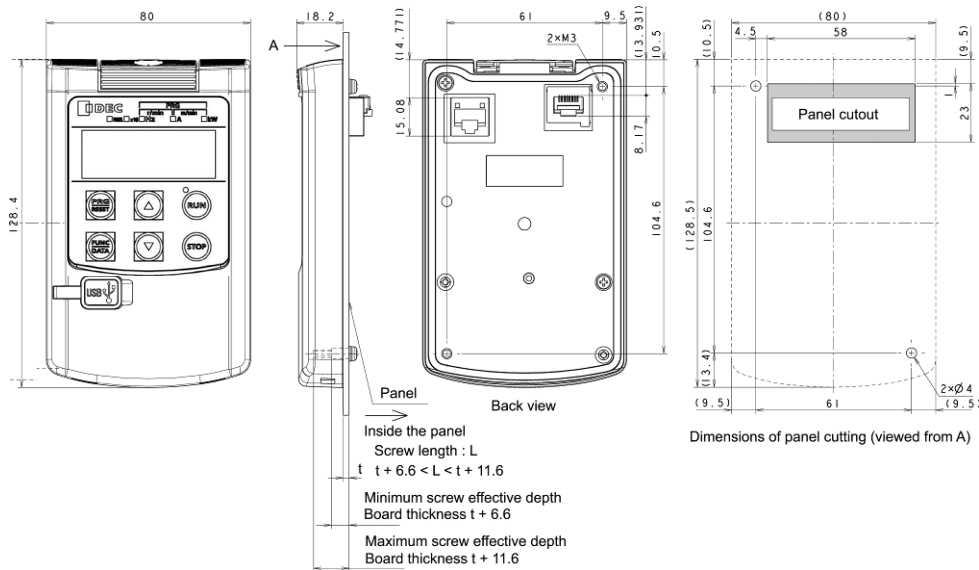

Figure 3.2 External Dimensions, Dimensions of Square Cut-out and Screw Holes
(Note 2) Use screws with the length suitable for the wall thickness of the panel. (Please refer to Figure 3.2)
■ Mounting the remote keypad on the panel (Figure 3.2)
- ① Cut the panel out for a single square area and perforate two screw holes on the panel wall as shown in Figure 3.2.